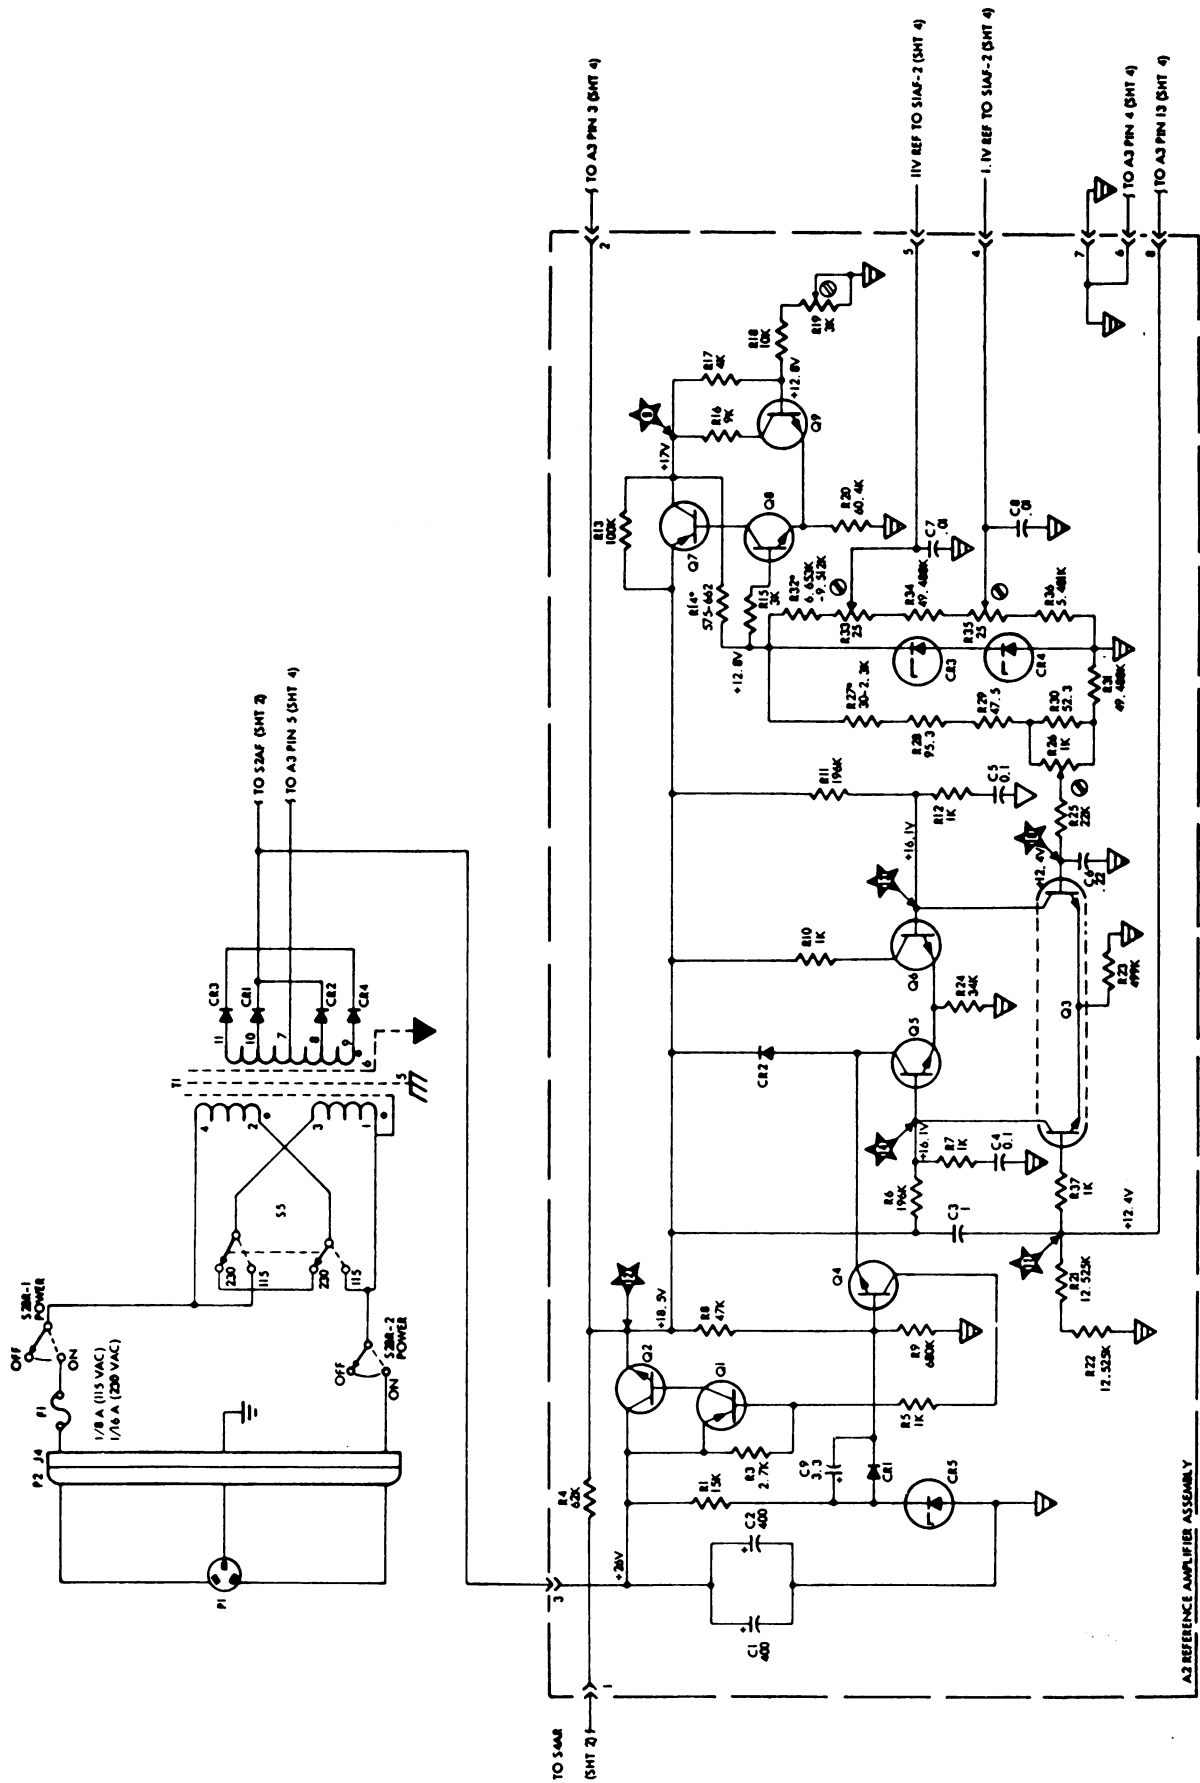

Figure 4-13. 893A reference amplifier circuit.
**Reference Amplifier.** Refer to figure 4-13 for the following explanation. A DC power supply consisting of CR1, CR2, A2C1, and A2C2 develops an unregulated 26 volts DC. This 26 volts DC is applied to the collector of A2Q2 and to the emitter of A2Q1. The reference amplifier assembly reduces the 26 volts and applies it as a regulated 18.5 volts DC through A2 pin 2 to A3 pin 3, the reference inverter assembly. Foldout 5 is a schematic of the A3 module.
Regulation of the 110- and 1100-volt DC reference is accomplished by feeding a sample of the selected reference voltage back to the DC-to-DC converter regulator circuit in the A2 reference amplifier assembly. Sections S1AR-1 and S1AR-2 of the range switch couple the selected 110- or 1100-volt DC reference to a voltage divider composed of resistors A3R12 through A3R16 and resistors A2R21 and A2R22 (fig. 4-13).
The 110-volt DC reference is coupled through the S1AR-1 section of the range switch. From the range switch, the voltage is applied to A3R14. Thus, when the range switch is in the 110-volt position, a divider composed of A3R14 through A3R16 and A2R21 and A2R22 (fig. 4-13) develops the sample voltage applied through A2R37 to the base of A2Q3. When the range switch is in the 1100-volt position, the divider network consists of resistors A3R12 through A3R16 and resistors A2R21 and A2R22.
the base of A2Q2, the series regulator. This less positive potential at the base of A2Q2 decreases its conduction, causing the resistance of the transistor to increase. The increased resistance of A2Q2 results in reducing the positive 18.5 volts DC coupled through A2 pin 2 to A3 pin 3. Refer to figure 4-13. Remember, this DC input is the operating voltage for the multivibrator A3Q1 and A3Q2. Decreasing the DC operating voltage decreases the amplitude of the square wave output from A3Q1 and A3Q2. Decreasing the amplitude of the signal in the primary of A3T1 decreases the signal applied to the full-wave rectifiers. By reducing the signal applied to the rectifiers, the 110- and 1100-volt DC references are reduced. Thus, the 110- and 1100-volt DC references are precisely controlled, because the reference voltage for the differential amplifier, A2Q3, is a zener controlled voltage.